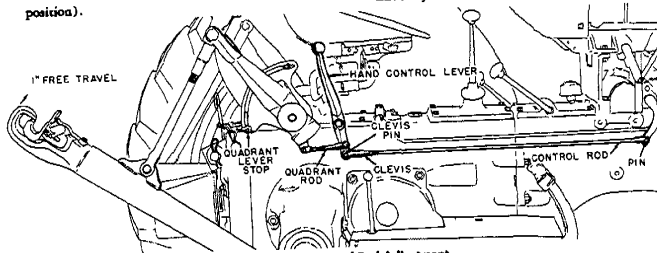

Fig. H-77 Control Rod Adjustment
3. Adjust the clevis at the lever end of the rod until the pins can be installed at both ends of the rod without moving either the hand control lever or the crank for the control assembly Fig. H-77.
5. While the draft arms are still in full raised position, grasp the Eagle claws and pull upward. There should be approximately one inch free travel at the claws before the rockshaft rocker arm strikes the stop on the housing. Fig. H-77.